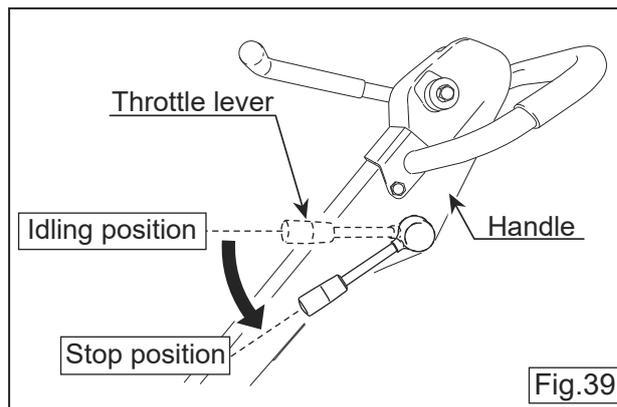

Fig.39
- 2 Move the throttle lever to the stop position to stop the engine. In case of a diesel engine, when the engine stops, the buzzer sounds.(Fig.39)